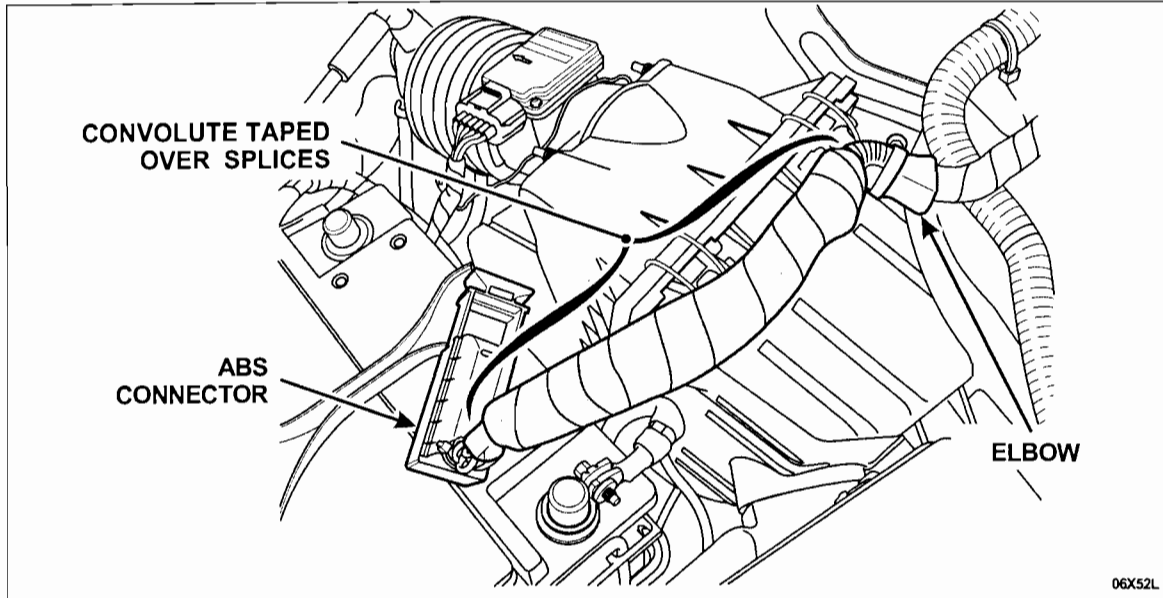

FIGURE 12
7. Install the supplied convolute tubing over the spliced area and secure with electrical tape. Apply tape to the entire length of the convolute and be sure to secure the convolute to the elbow at one end, and as close as possible to the ABS connector on the other. See Figure 12.